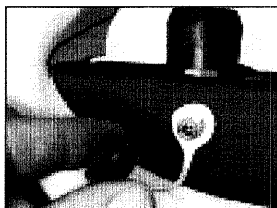

Figure 2
- Once loose, remove the suction port- filter cartridge as shown in Figure 2.